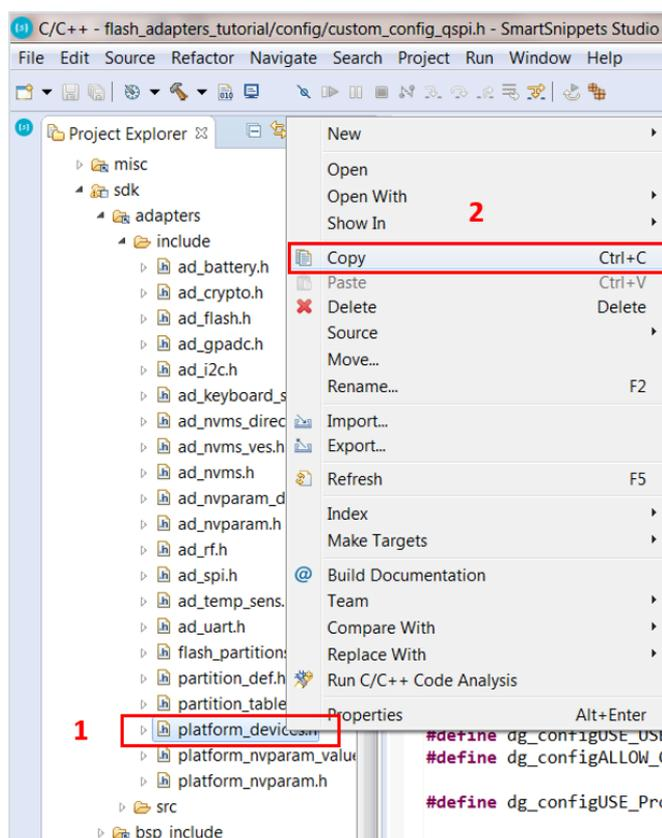

Figure 15: Creating platform\_devices.h Header File, Step 1
- a. For this demonstration, a typical CR2023 non-rechargeable coin cell battery has been selected. The battery is placed at the bottom of the daughterboard in the dedicated battery holder as illustrated in Figure 15. The battery is inserted by first sliding it under the metallic clip of the battery holder. Extra attention is needed when removing the coin cell battery from its holder, if this is not done properly then the plastic battery holder can be subject to breaking.